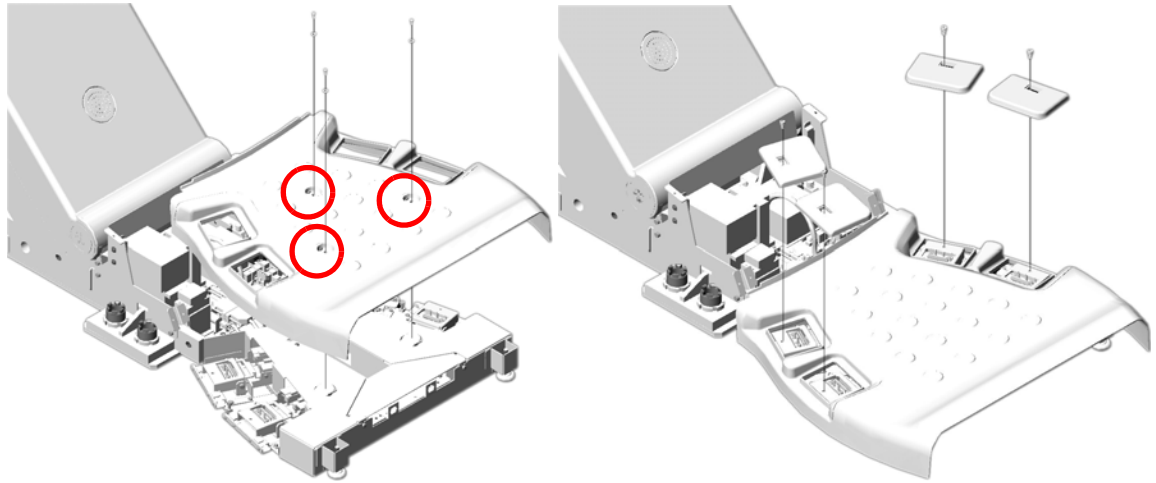

Figure 4-6 Footswitch Cove Installation
- 1.) Install the footswitch cover using three (3) screws (see Figure 4-6).